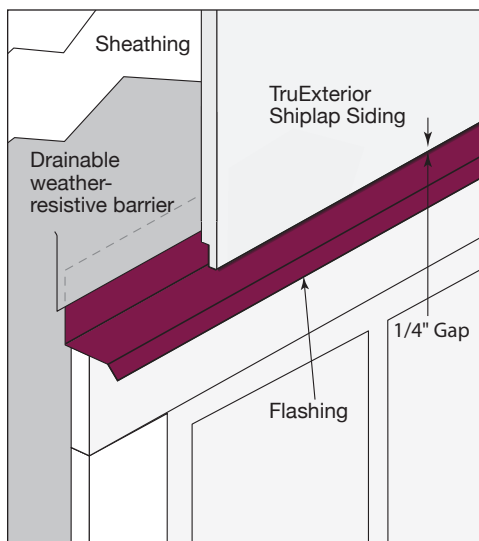

Fig. 3a
- Install window and door flashing per window and door manufacturer guidelines (**Fig. 3a**)